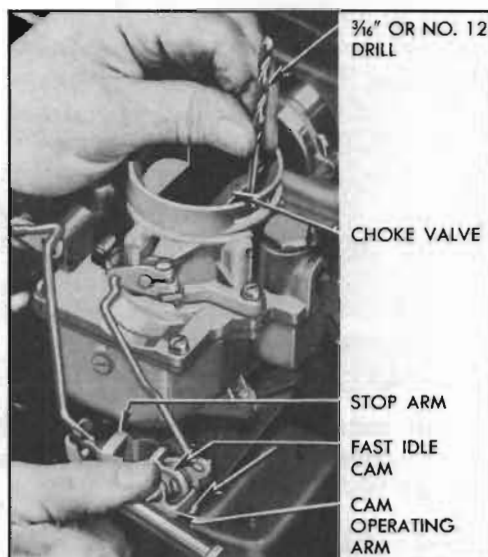

Figure 3-27—Checking Carter Choke Unloader Adjustment
If the engine becomes flooded for any reason, the choke valve can be partially opened by depressing accelerator pedal to the full extent of its travel. This causes a tongue or arm on the throttle lever to contact and rotate the fast idle cam, which forces the choke valve open. See figure 3-27.
4. Open throttle until stop arm on throttle shaft lever contacts boss on body flange, then check clearance between upper edge of choke valve and wall of air horn, using a $\frac{3}{16}$ " gauge (T109-28 or No. 12 drill). See figure 3-27.